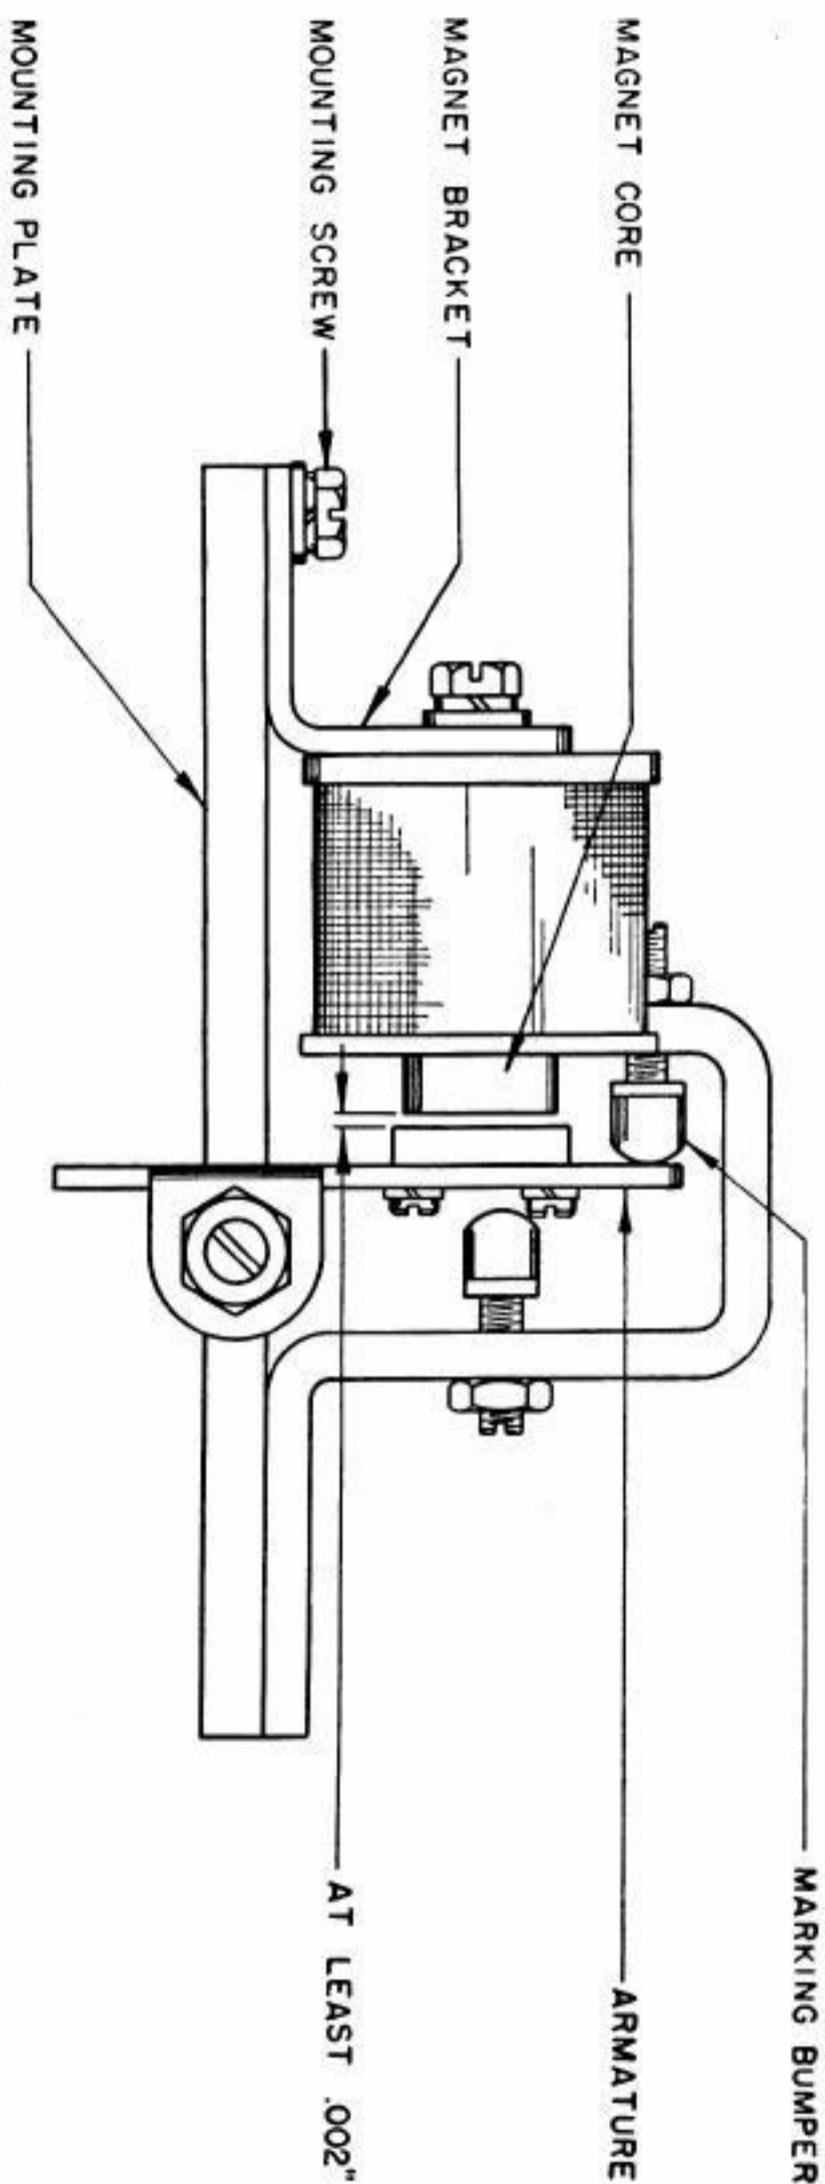

Fig. 9
- (a) To adjust, position the magnet bracket by means of its oversize mounting-holes. See that the cores do not extend beyond either end of the armature. **Fig. 9**